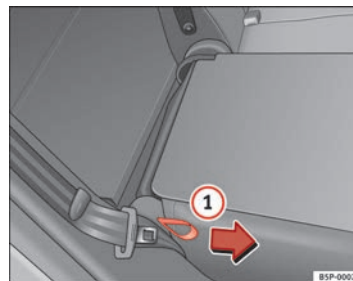

Fig. 98 Folding or opening the rear seat backrest
- Pull the loop on the side of the seat ⇒ Fig. 98 ① in the direction of the arrow and lift the seat backrest into position.